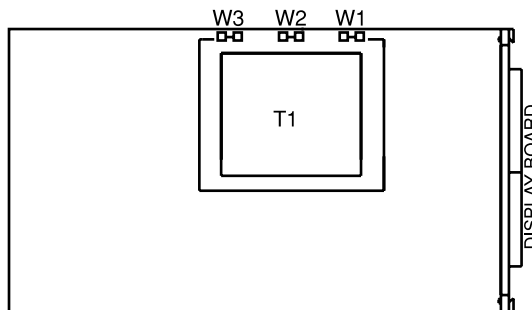

Figure 3-1. Main Board Power Jumpers (W1, W2, W3)
2. Locate the solder jumpers W1, W2, and W3 (located near the edge of the main board alongside the transformer - refer to Figure 3-1).
Figure 3-1 shows the location of solder jumpers W1 through W3 on the main board.